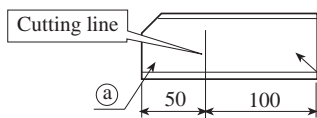

Fig. 4
- (1) Ornament panel can be mounted on ceiling as high as 3 m.
- (2) Please install pad as accessory.
- ① Cut open the pad along cutting ling. Use part (a) only and discard part (b). (Refer to Fig. 4)